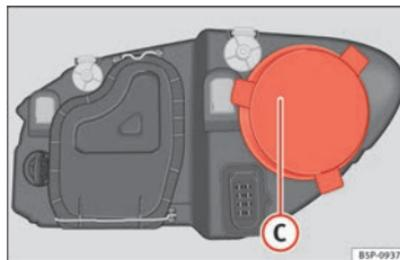

Fig. 186 Main beam headlight
- Remove the cover ⇒ Fig. 186 C by pulling on this.